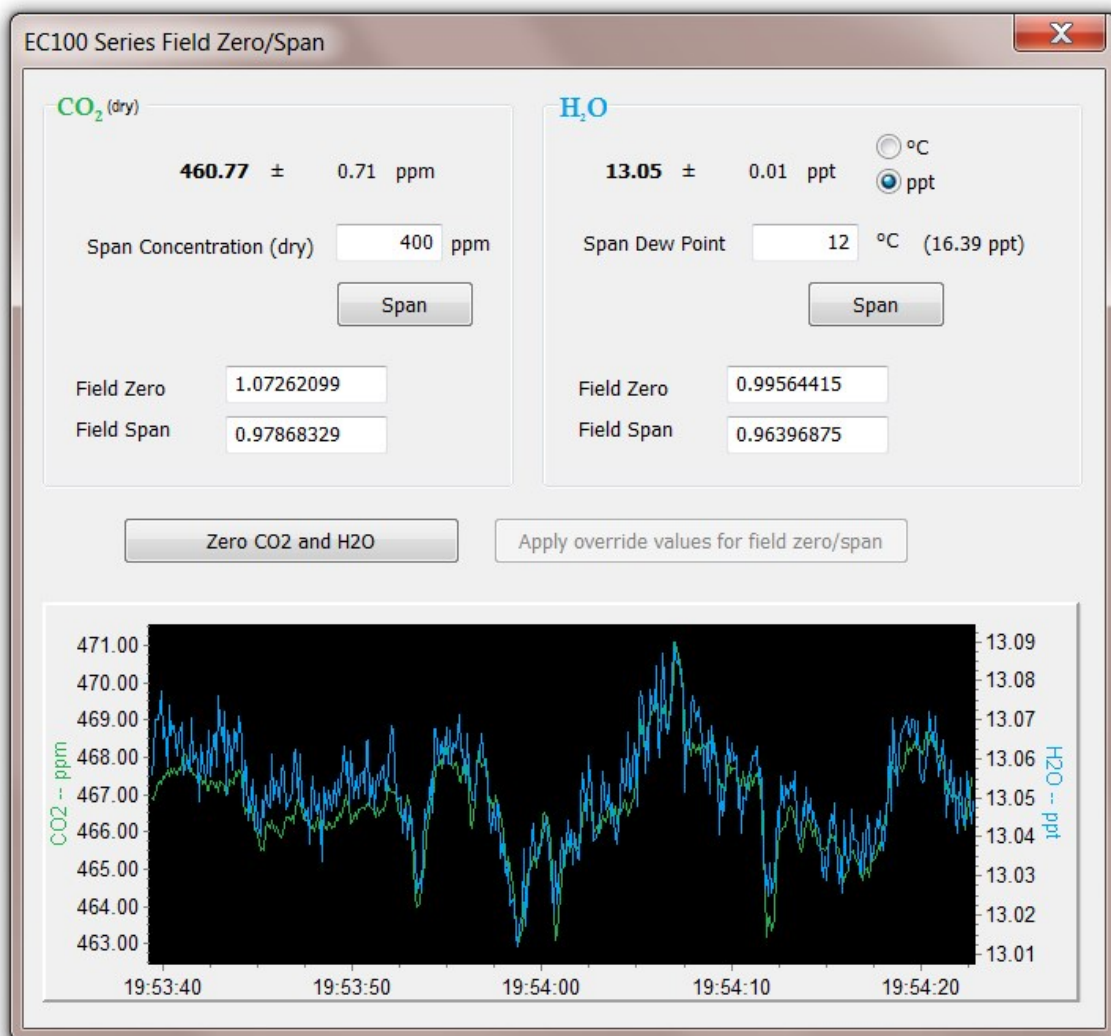

Figure 9-5. *ECMon* zero-and-span window
7. Launch **ECMon**, select the appropriate USB port, and click **Connect**. The main screen should now be reporting real-time CO₂ and H₂O concentrations. Click **Zero/Span**. A graph will appear in the lower half of the zero-and-span window showing measured CO₂ and H₂O concentrations (see Figure 9-5 [p. 40]).